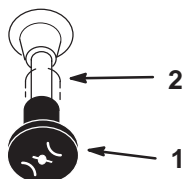

Figure 15
- After the engine starts, move the choke to off (Fig. 15). If the engine stalls or hesitates, move the choke back to on for a few seconds. Then move the throttle lever to desired setting. Repeat this as required.